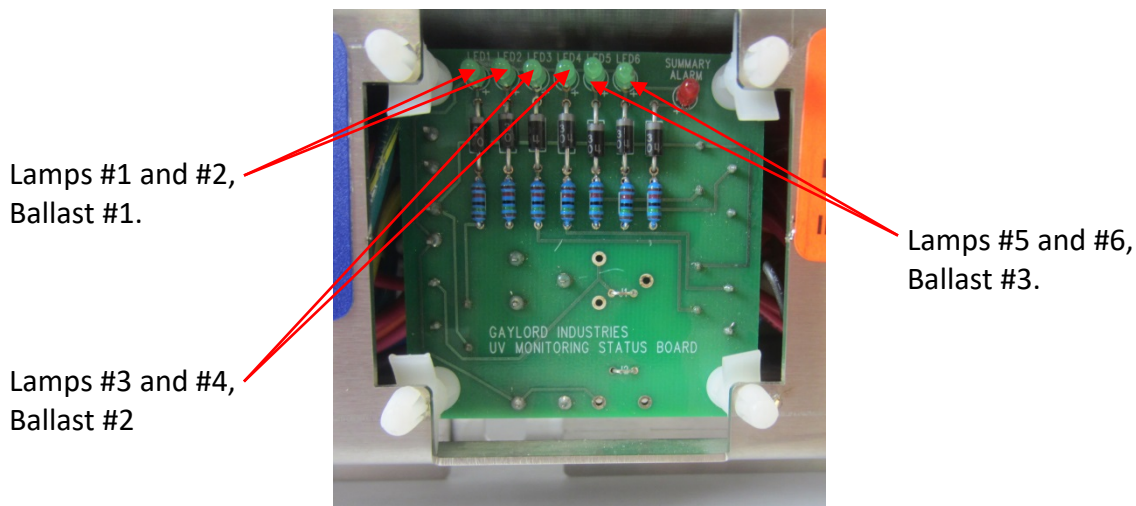
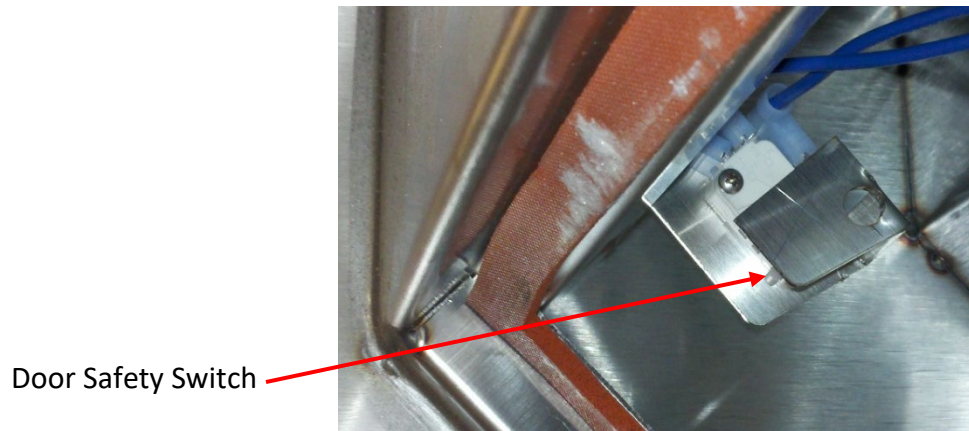

Figure 6-20-1
Figure 6-21-1
5. Push and hold in the Door Safety Switch (Refer to Figure 6-21-1) and look at the UV Monitoring Status Board on each Module (Refer to Figure 6-20-1). There is one green light for each of the six Lamps and the light on the left is for Lamp #1 and on the right is for Lamp #6. If for example green lights for lamps #1 and #2 are off, most likely the left Ballast, Ballast #1 is defective. If light #3 and #4 are off Ballast #2 is defective, and lights #5 and #6 are off Ballast 3 is defective. Whenever one or more green lights are off, the red light will be on.